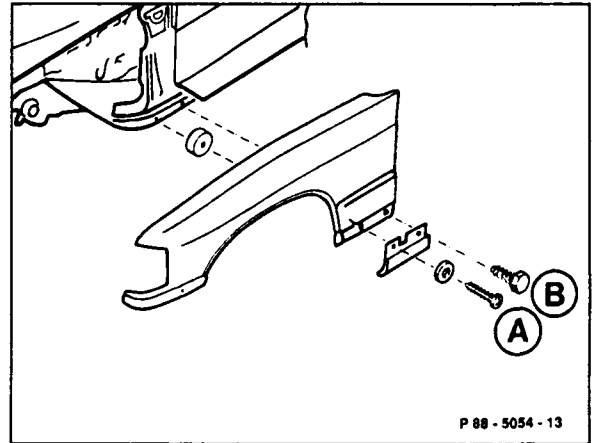

Figure 17
6. Install spacer on lower front of fender at rear of wheel opening (Figure 17).